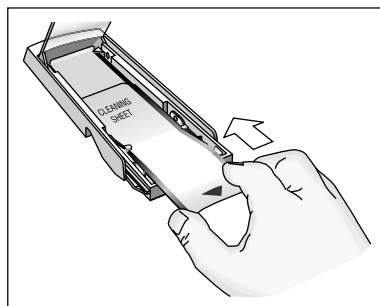

figure 2
- 2 Load the cleaning sheet into the magazine tray so that the cleaning sheet is slid above the front guide pins, but below the back guide pins. The front edge of the paper should stay above the front guides (see figure 2).